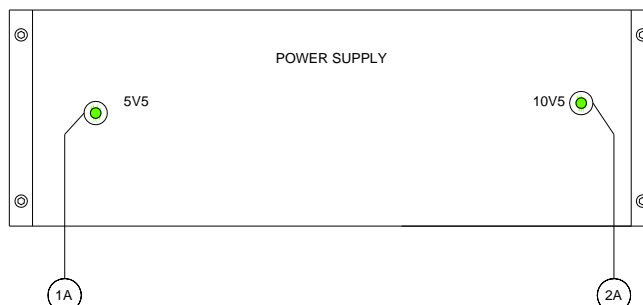

FIGURE 5 – DC/DC CONVERTER: LEDS STATUS - CORRECT POWER UP
5. Check LEDs status on the 48Vdc power supply module: FIGURE 5 and Table 4 show LEDs status on the power supply module (DC/DC converter) under normal operating conditions.